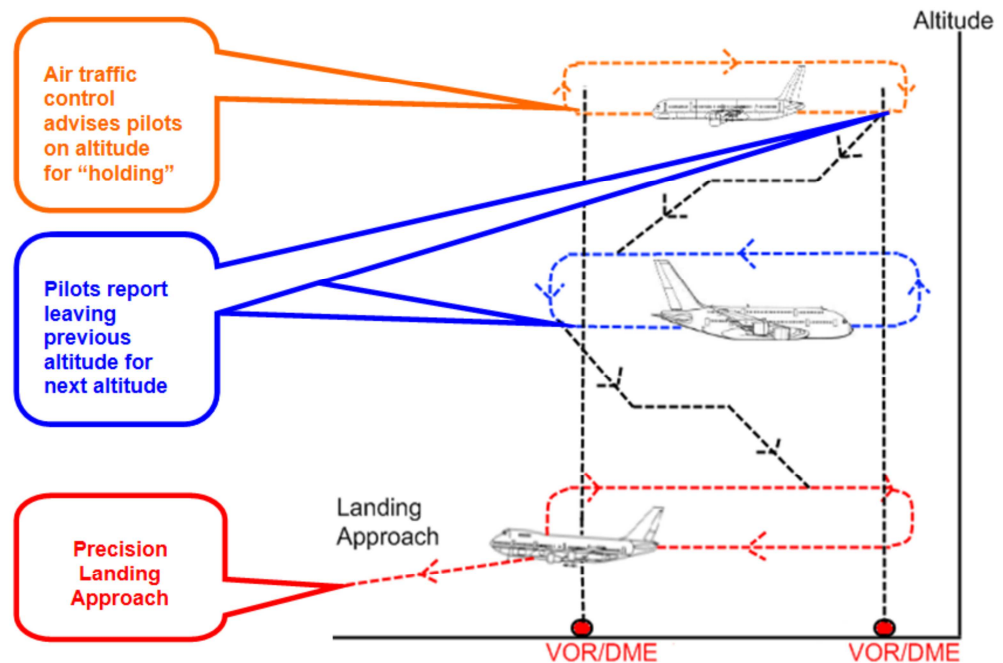

Figure 4: Transitioning from “holding stack” to landing approach navigation
Enroute navigation includes the use of GPS, RADAR, and VHF with air traffic control (ATC), distance measurement equipment (DME), and automatic direction finder (ADF). For example, when using the GPS and ADF, pilots will know the aircraft position and will request landing clearance from ATC. For heavy air traffic, ATC sequences the aircraft arrivals, with pilots executing a “holding stack” – usually based on a “racetrack” pattern (refer to Figure 4). VOR/DME stations serve as waypoints before the final descent and landing approach, guided by the distance from the runway as provided by marker beacons (MB) and the instrument landing system (ILS).